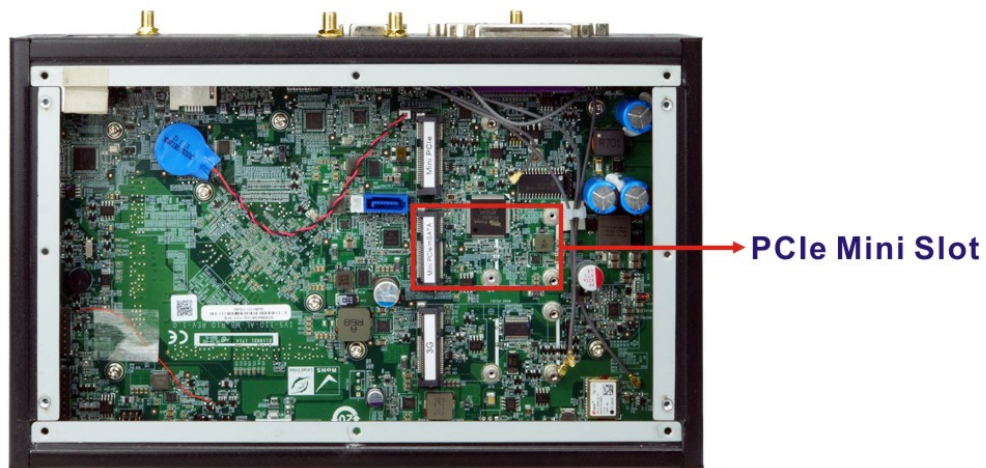

Figure 3-2: PCIe Mini Slot Location
Step 2: Locate the PCIe Mini slot for mSATA module as shown in **Figure 3-2**.